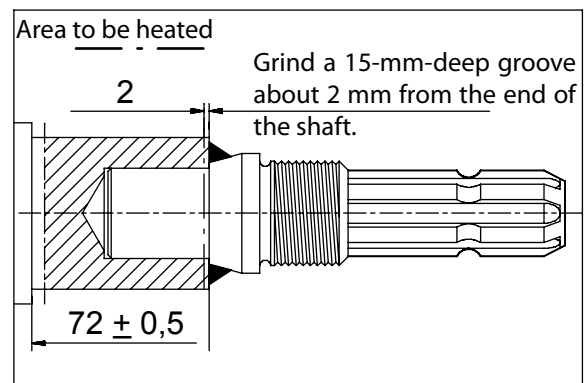

Fig 30. Replacing the splined shaft
4. At a distance of 2 mm from the shaft end, grind a groove of 15 mm depth into the shaft. See fig 30.